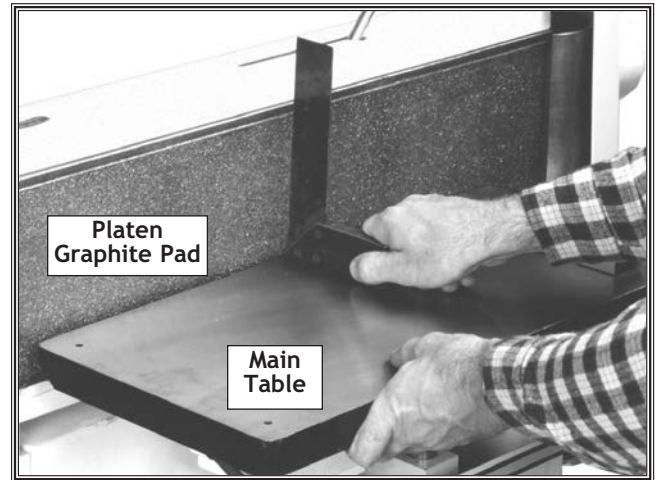

Figure 14. Machinists square on the main table and against the platen graphite pad.
4. With one hand, hold the main table and with the other hand place a machinist's square on the main table and against the platen graphite pad. See **Figure 14**.
5. Have an assistant loosen both of the main-table tilt levers, and tilt the main-table so the table is perpendicular to the platen as indicated by the machinists square. See **Figure 14**.